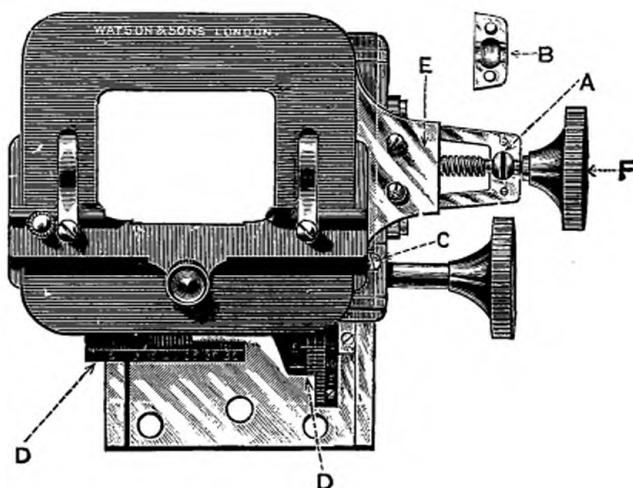

FIG. 18. Surface view of the Watson Standard Stage showing sliding-bar scales and verniers, and method of fitting stationary milled head.
The Stage surface is in full view, Fig. 18, and the manner in which the movements are effected will be plainly seen. The horizontal travel to the Stage is made by the rotation of the stationary milled head F, that is, it does not move with the traversing plates of the Stage. The plate E is connected with the long screw operated by the milled head F, and the screw is supported by a slotted collar, which gives adjustment for wear. To give the smoothest possible motion, the screw has a ball fitting (A) : in this is a groove, which acts as a receptacle for foreign matter. The little plate B fits over the ball, and is so attached that no internal shake takes place. C is the adjusting screw for regulating the pressure of the pinion upon the rack in the vertical movement of the Stage. The Verniers D, Fig. 18, which can be used for measuring or for "finding" objects, are an extra, costing 30/-. When verniers are supplied it is advantageous to have the sliding bar, as illustrated, at an extra cost of 30/-.